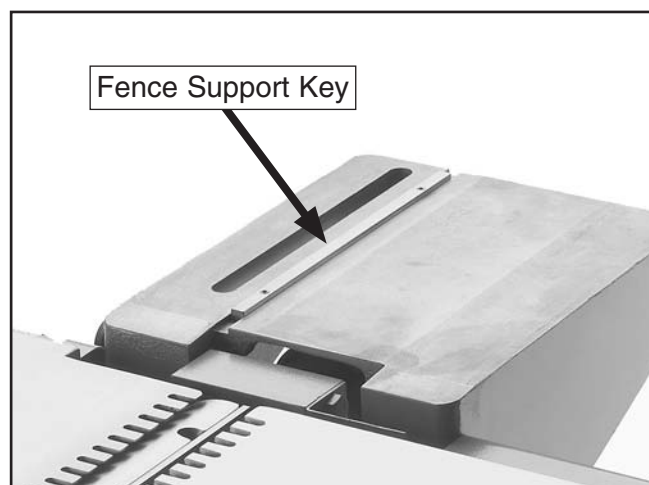

Figure 19. Fence support key.
3. Align the keyway underneath the fence support key (see **Figure 19**), then place the fence assembly on top of the support.